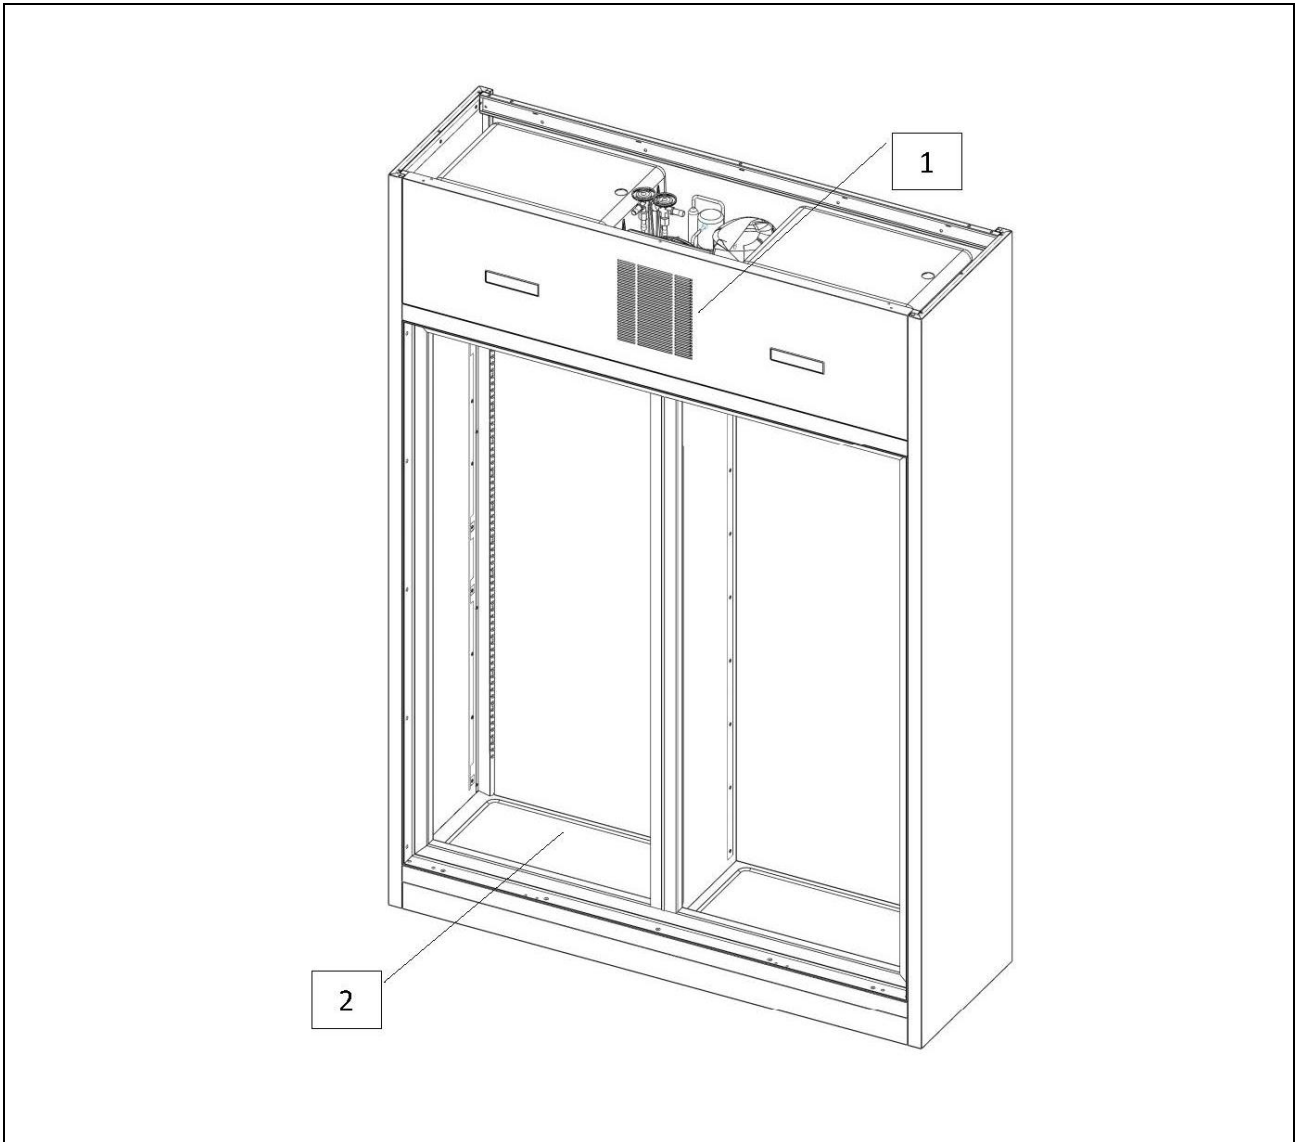

Fig. 5
- with obstructed air ducts (ref. 1 fig. 5);
- with the food to be processed placed against the ventilation grilles (ref. 1 fig. 5), air ducts, or on the bottom of the chamber (ref. 2 fig. 5).